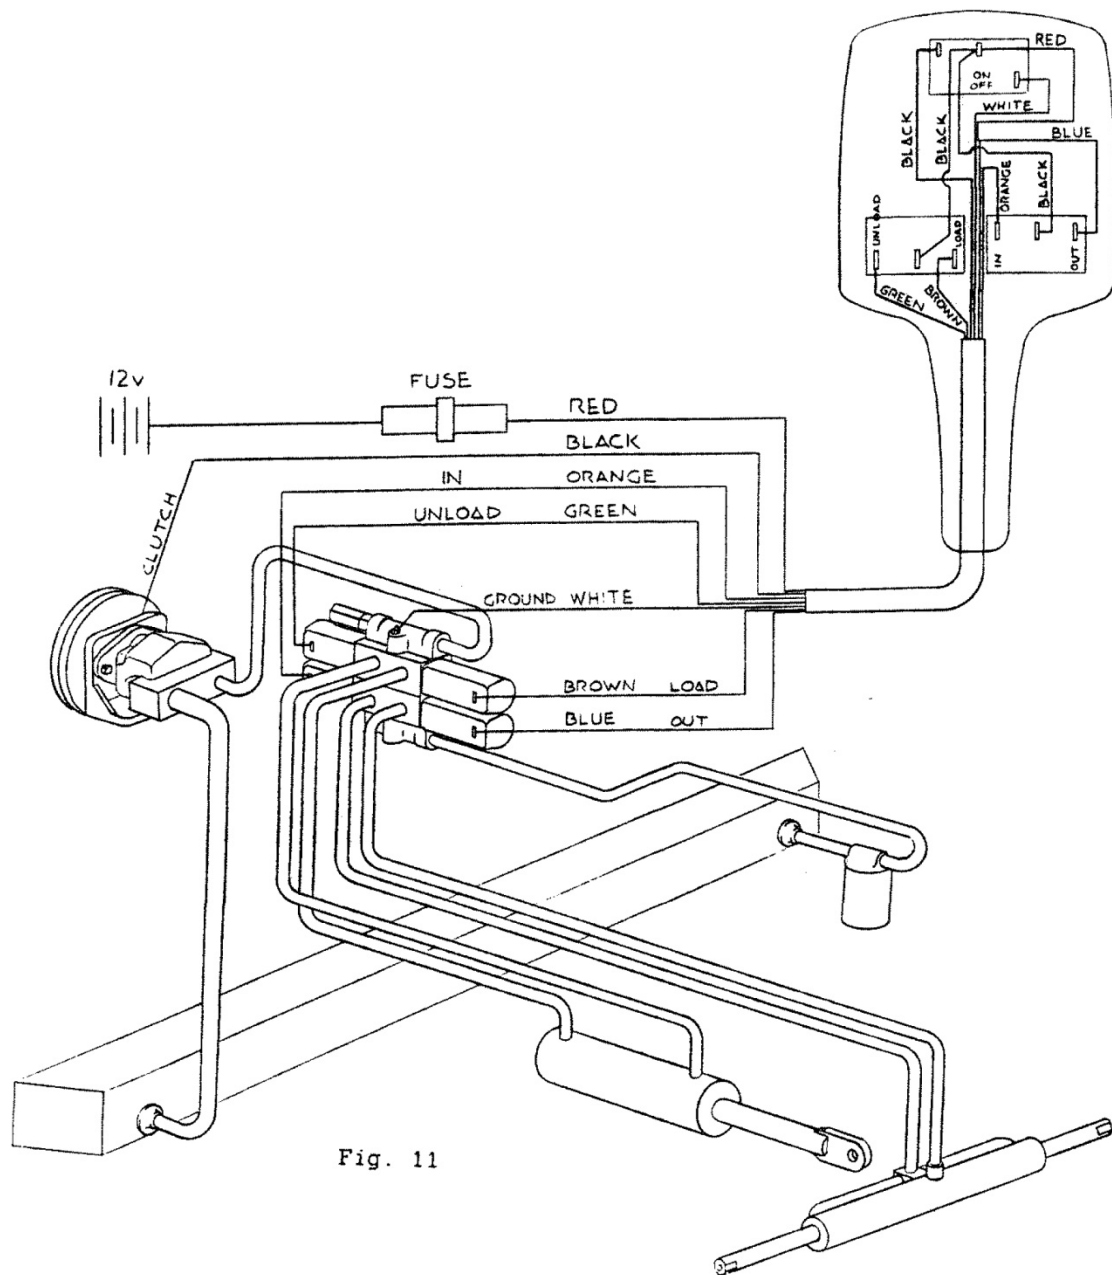

Fig. 11
6. Push the four wire ends onto the posts of the valve solenoids, matching the colors as shown on page 9, figure 11.